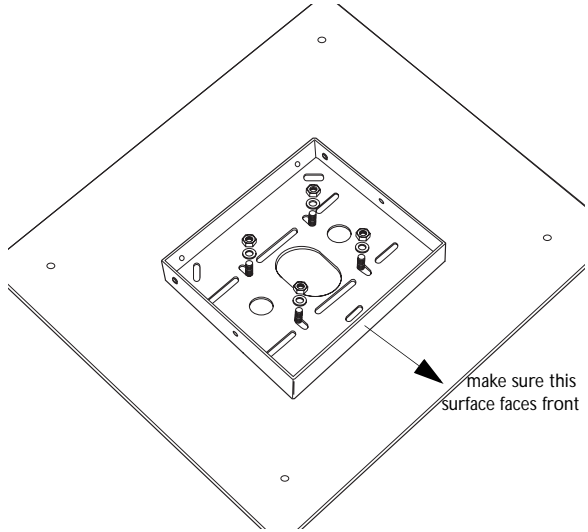

FIGURE 1
- 1 Center the ceiling mount base box on the ceiling plate as shown in Figure 1. Make sure the front of the base box faces forward toward your projection screen. The front side of the base box is the only surface without drilled holes.
- 2a LiteMount False Ceiling Plate - Align the holes in the base box with the threaded studs on the plate. Install the 4 washers and nuts as shown in Figure 1.